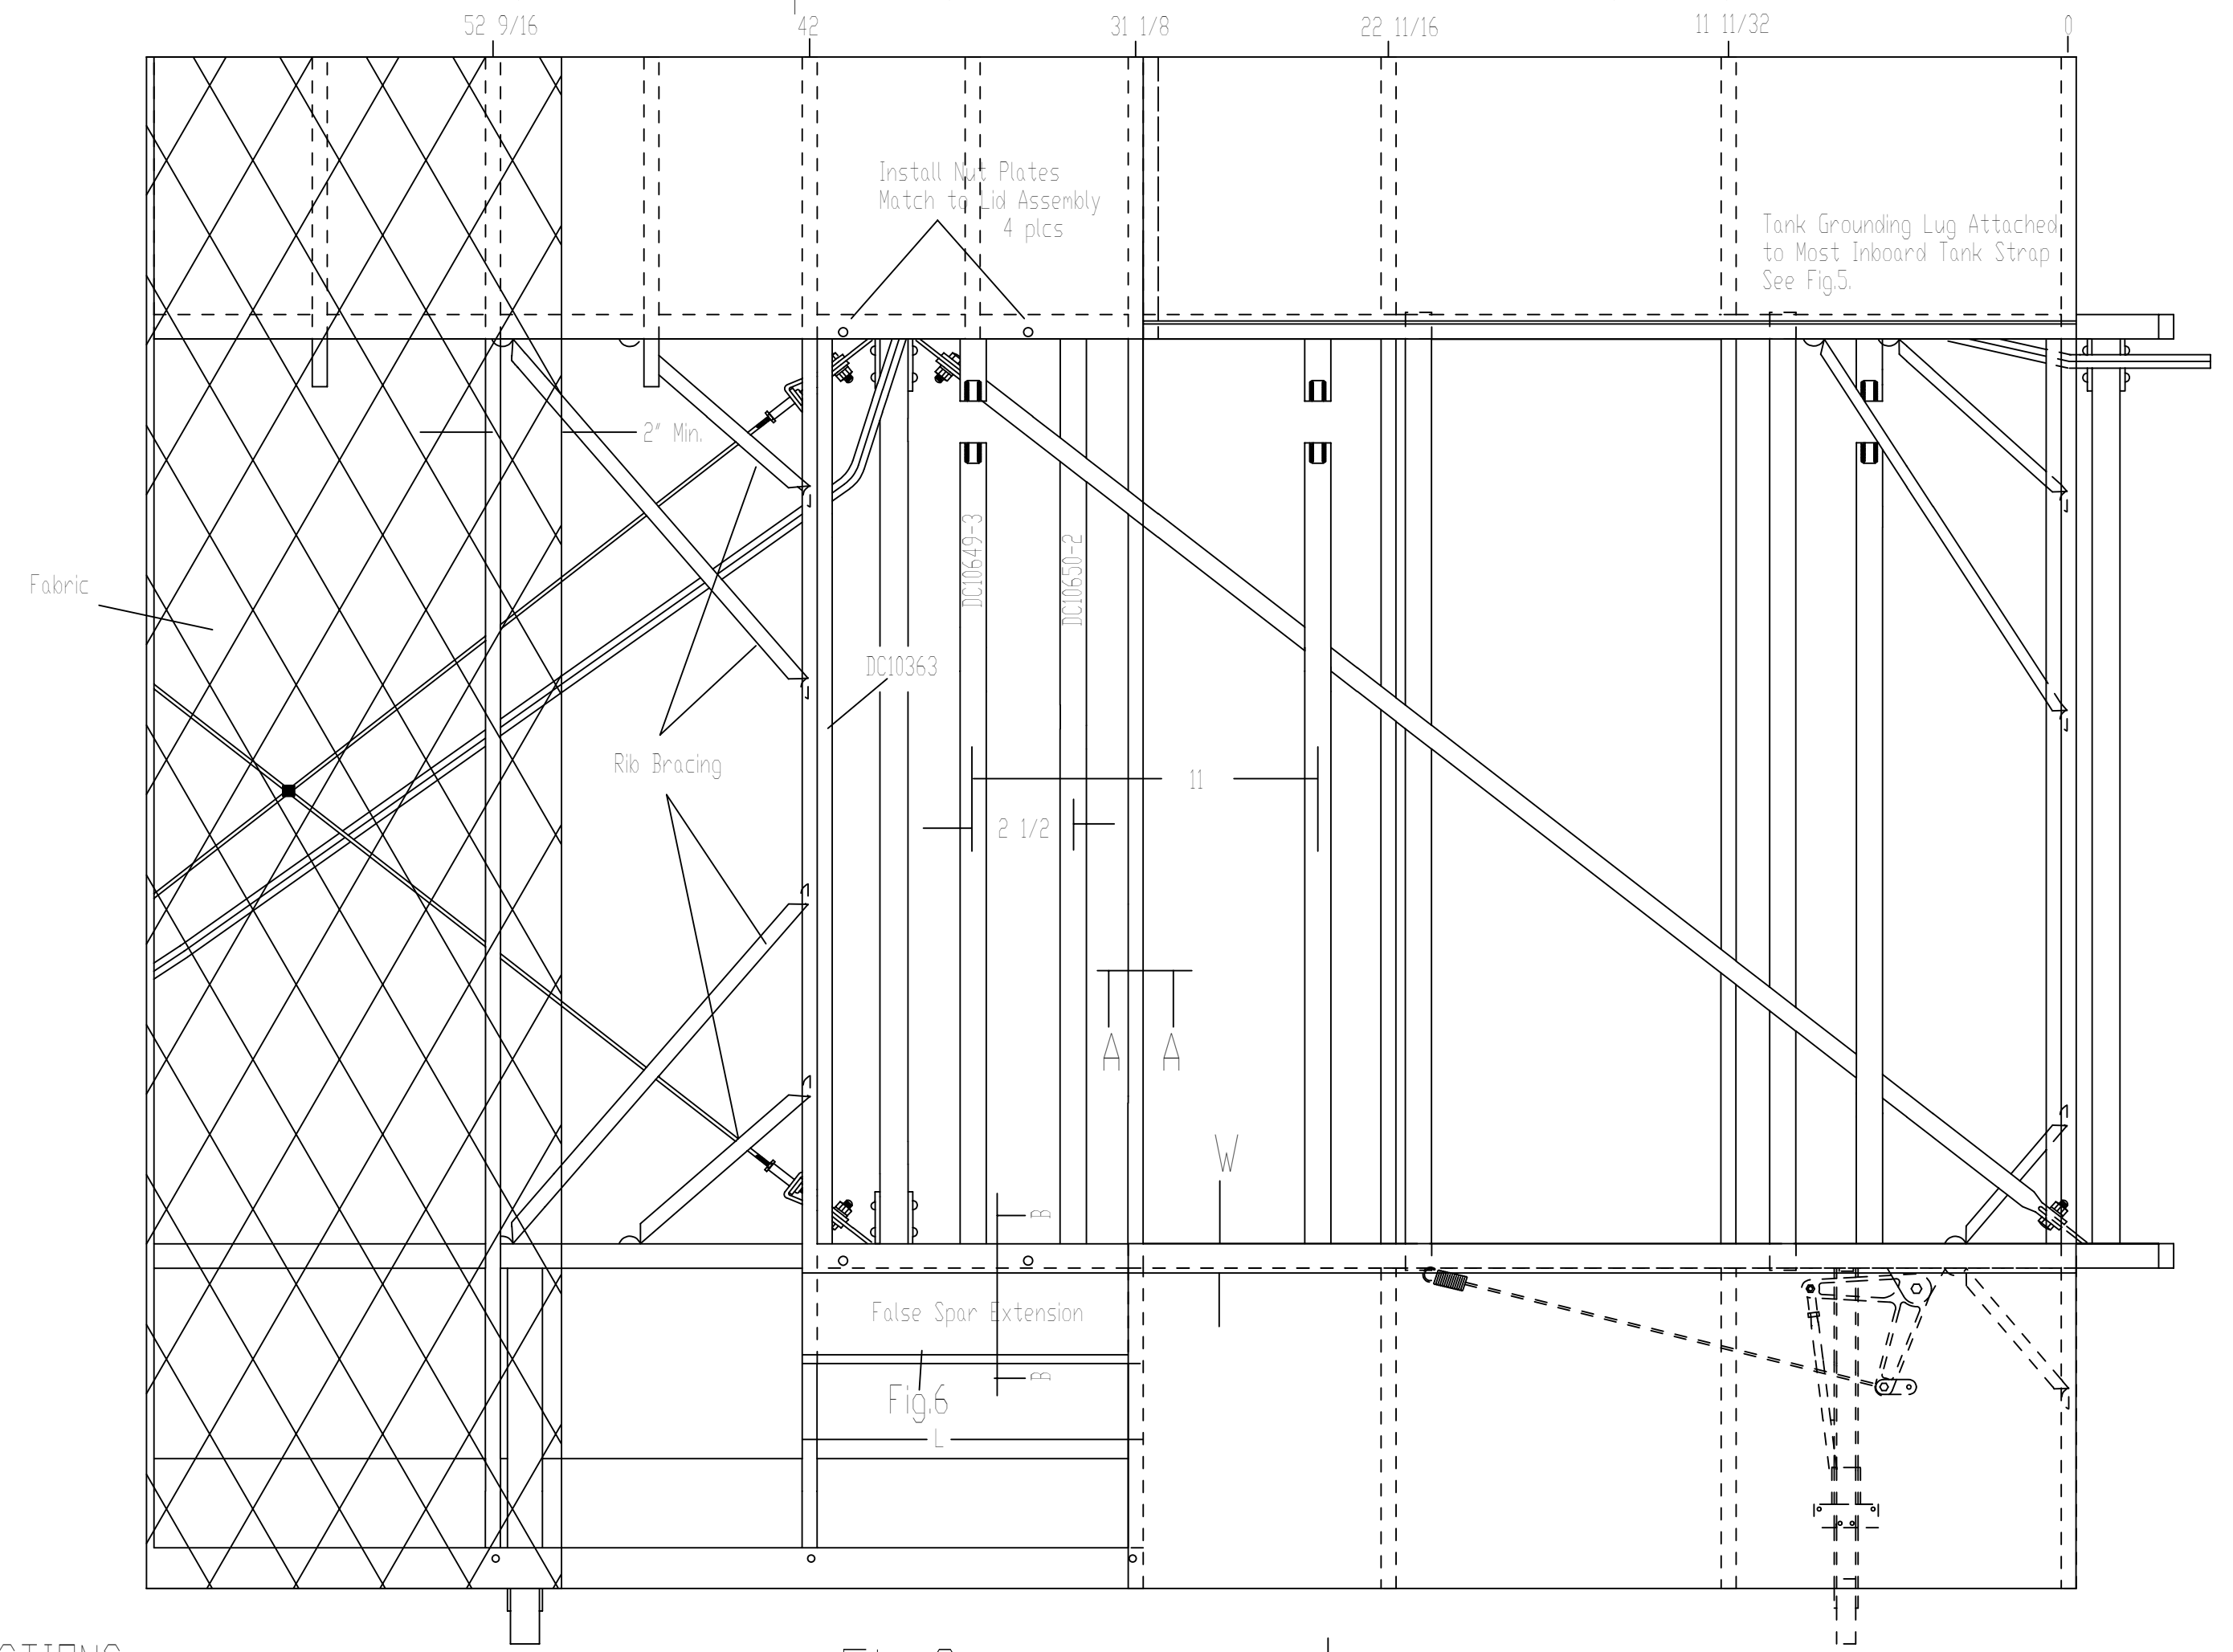
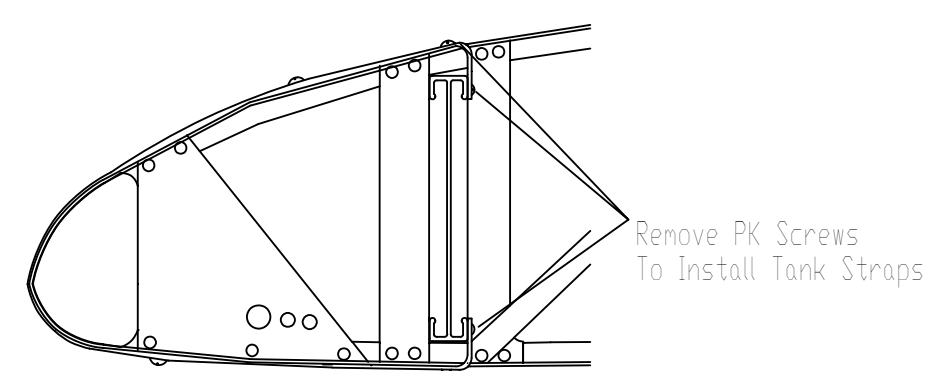

Fig.2
Fig.7
- 4- Install Tank Straps as shown in Fig.5. Drill .191 holes at a distance of 11 1/2" from centerline of existing straps (Fig.2). The leading edge and false spars screws must be removed at the spar caps (Fig.7) to facilitate tank strap installation. It is best to install the false spar extension (Fig.6) and reinstall the cable fairlead bracket (Fig.8) at this time. Glue Anti-Chaffie Felt to tank straps.